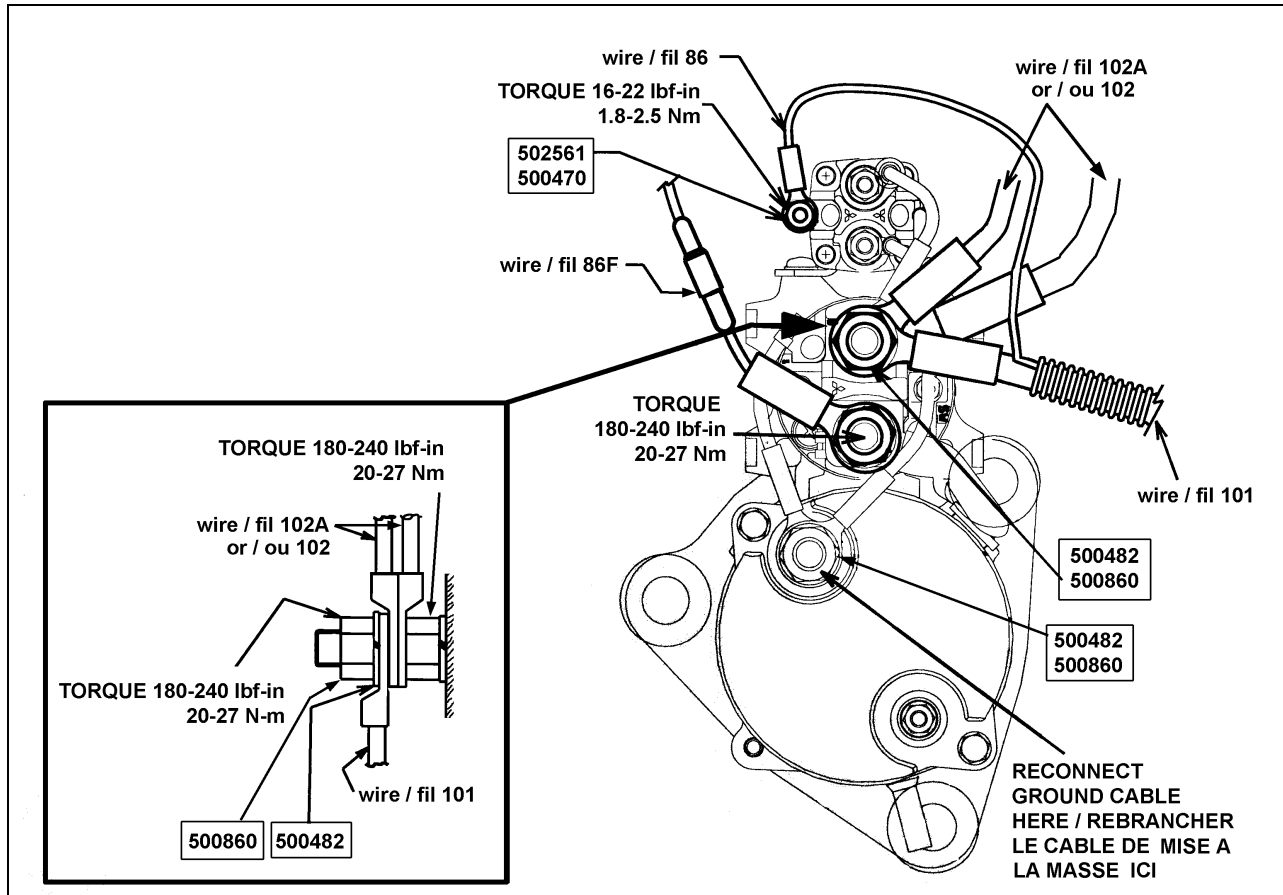

FIGURE 3: VIEW OF CONNECTIONS, FASTENERS & SPECIFIED TORQUES
5. Reconnect the cables to the starter as per figure 3. Use the fasteners shown on the figure and tighten to the specified torques.